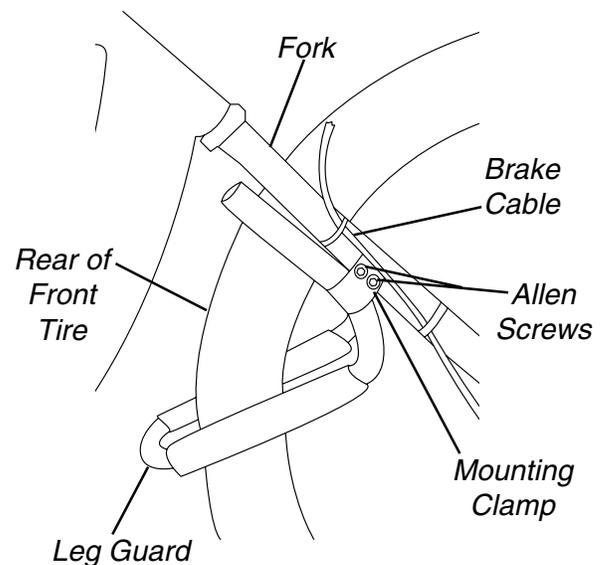

FIGURE 2 - EXCELERATOR XLT/XLT 2000 FOOTREST AND LEG GUARD REPLACEMENT
1. Loosen the two (2) allen screws on each mounting clamp.
2. Position each mounting clamp onto the fork under the brake cable as shown in FIGURE 2.